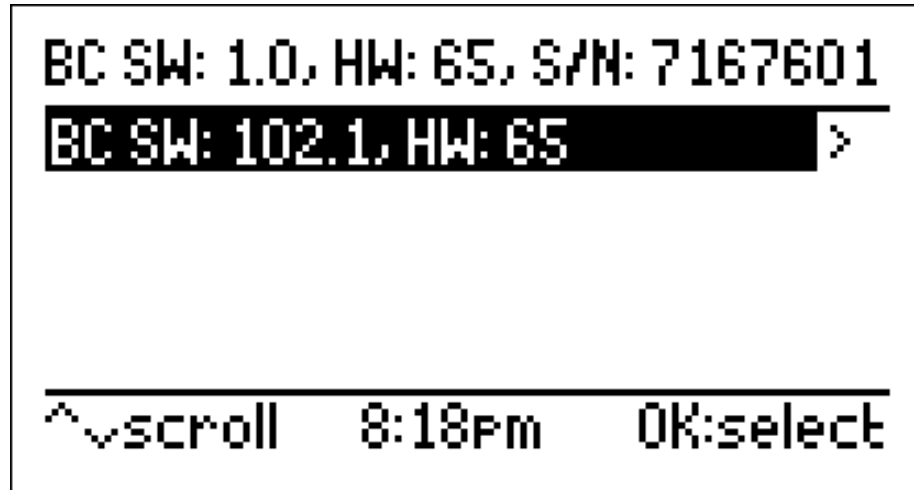

Figure 23 Confirm module selected
2. Scroll down to the module line (see Figure 23) and click the “OK” button to confirm the module selected.